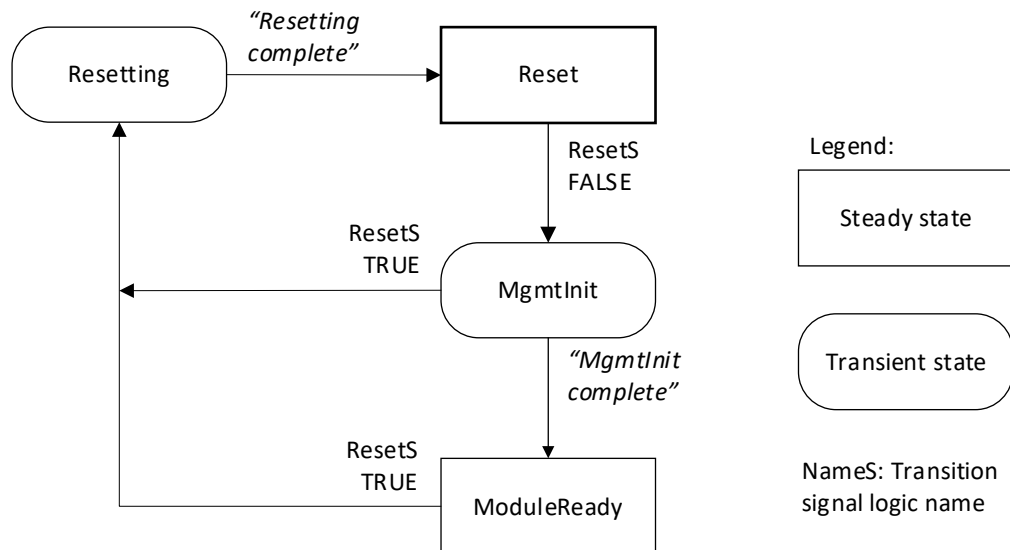

**Figure 6-4 Flat Memory Module State Machine (MSM) State Transition Diagram**
**Flat Memory Modules** shall adhere to the behaviors described by the simplified Module State Machine shown in Figure 6-4.
As shown in Figure 6-4, flat memory modules transition to the ModuleReady state without host interaction.